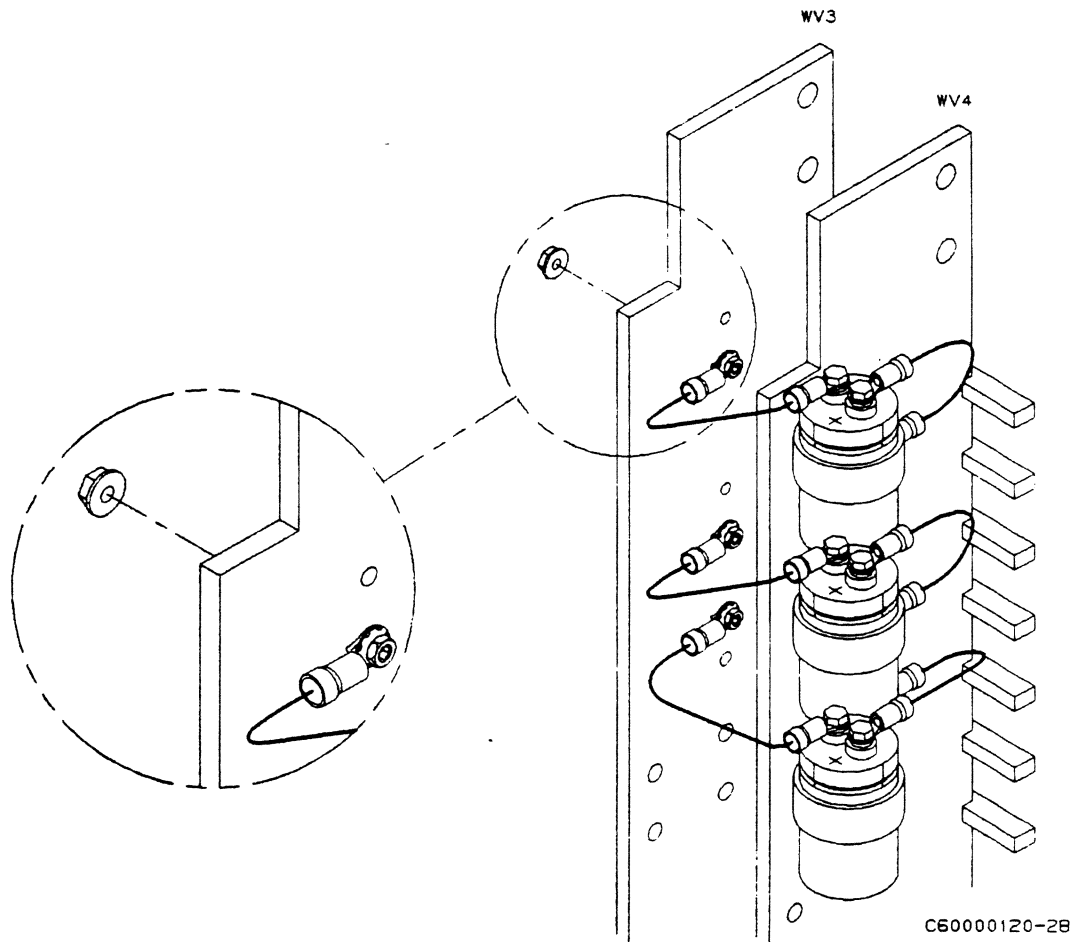

Figure 3-25. Capacitor Installation on CP-1
- 9. Fasten blue wires from capacitors to unpainted holes on WV3 (figure 3-25).